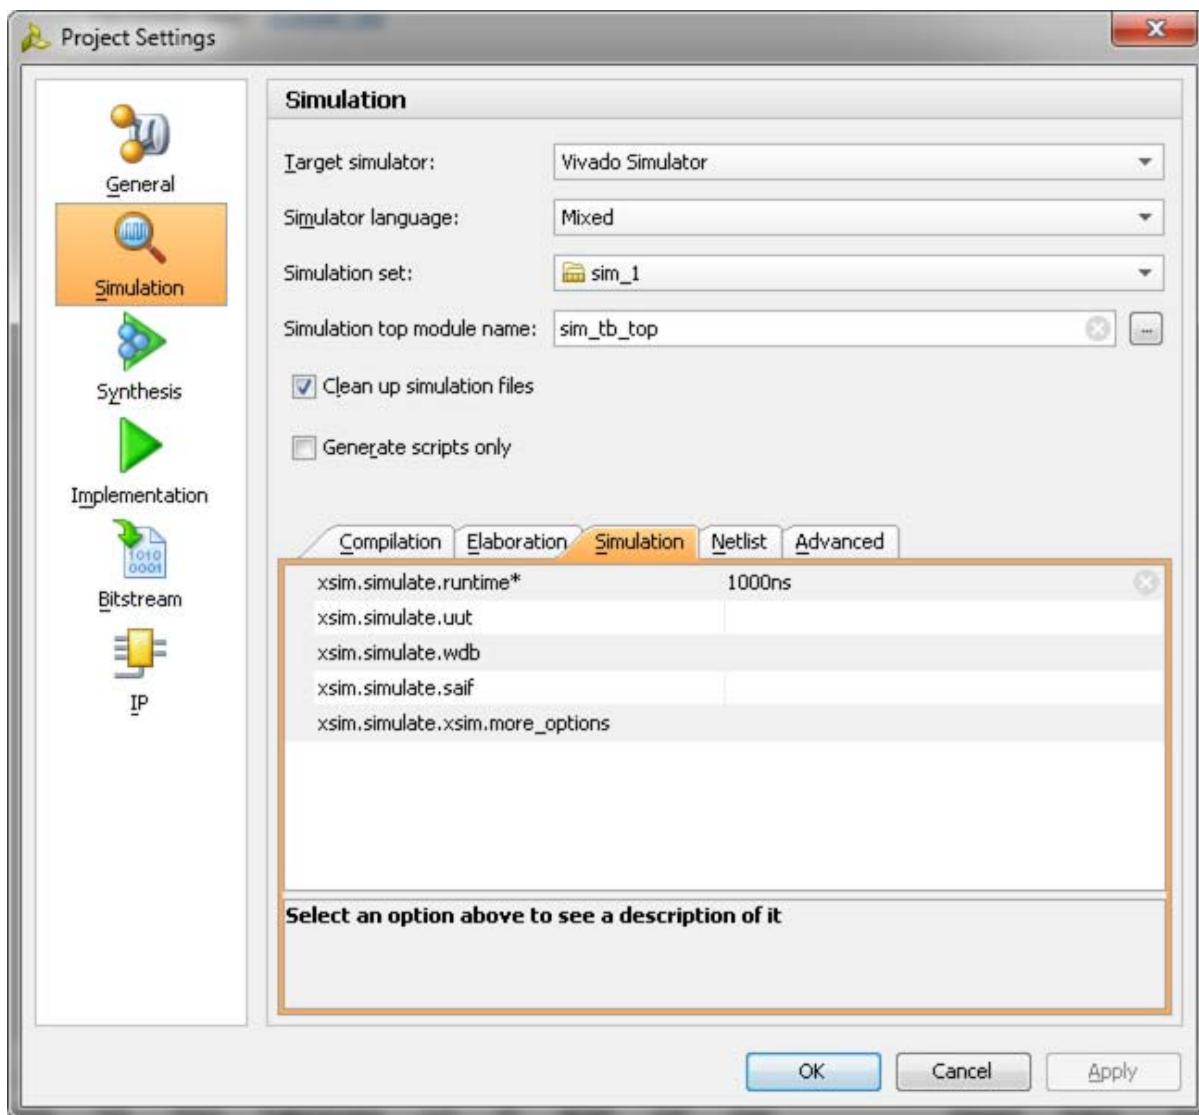

Figure 3-64: Simulation with Vivado Simulator
1. In the **Open IP Example Design** Vivado project, under **Flow Navigator**, select **Simulation Settings** (Figure 3-64).
- Under the **Simulation** tab as shown in Figure 3-64, set the `xsim.simulate.runtime` as 1 ms (there are simulation RTL directives which stop the simulation after certain period of time, which is less than 1 ms). Apply the settings and select **OK**.
- b. Under the **Simulation** tab, set the `modelsim.simulate.runtime` to 1 ms (there are simulation RTL directives which stop the simulation after certain period of time, which is less than 1 ms), set `modelsim.simulate.vsim.more_options` to `-novopt` as shown in Figure 3-64.